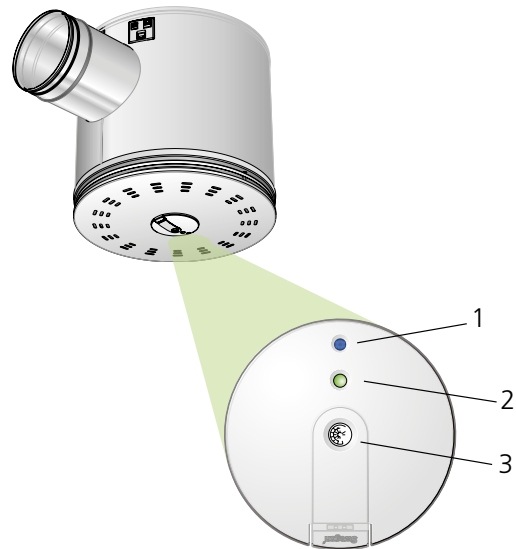

Figure 1. The sensor module of ADAPT Free with connection for TUNE Adapt.
- Inside the air diffuser, is a controller providing all the required set points and control functions as well as a multi-functional sensor module, see figure 1.